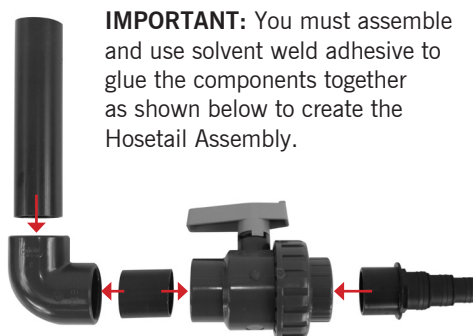

Figure 7.1. Hosetail assembly
1. Glue the components together to make the Hosetail Assembly (Figure 7.1). We recommend using solvent weld adhesive (not supplied).
2. Attach the Hosetail Assembly (Figure 7.1) to the EazyConnector on the Nexus Inlet (A).
3. Connect the hose / pipework from your pump to the hosetail (G), cutting down the hose tail to fit the correct hose, we recommend using 1½" hose.
4. Connect your 4" return pipework to the EazyConnector on the Exit (B).
5. Pour the 50L K+Media bag into the outer chamber (C) of the Nexus.
6. Connect your air pump to the Nexus air inlet (E).
7. Connect the waste valves (F) to your waste outlet as described on the next page.